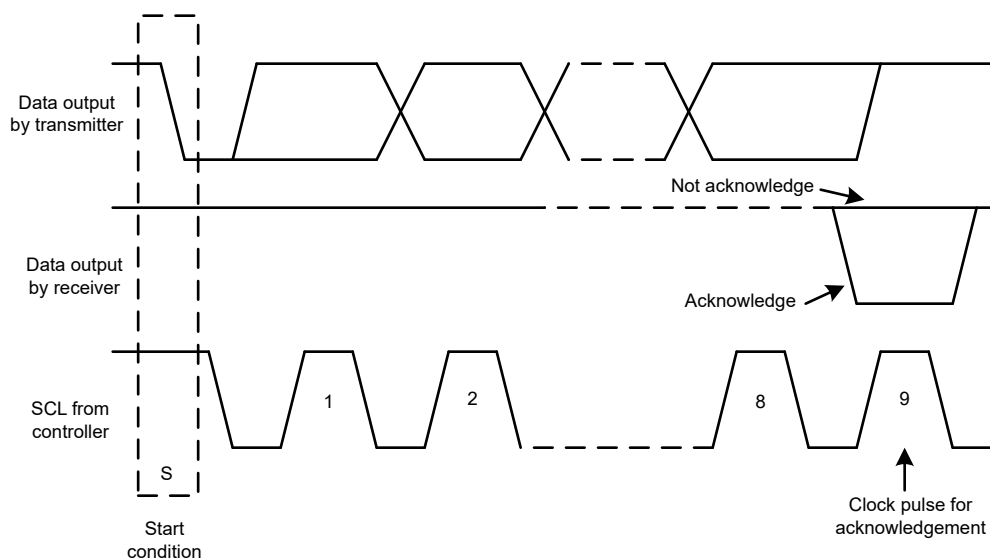
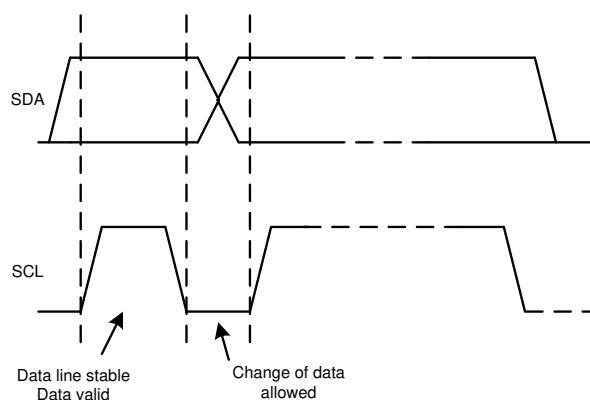

Figure 7-9. Acknowledge and Not Acknowledge on the I²C Bus
Figure 7-11. Bit Transfer on the I²C Bus
Other than specific timing signals, the I²C interface works with serial bytes. At the end of each byte, a ninth clock cycle generates and detects an acknowledge signal. An acknowledge is when the SDA line is pulled low during the high period of the ninth clock cycle. A not-acknowledge is when the SDA line is left high during the high period of the ninth clock cycle, as shown in Figure 7-9.
2. The controller then generates the SCL pulses, and transmits the 7-bit address and the read/write direction bit (R/\bar{W}) on the SDA line. During all transmissions, the controller makes sure that data are valid. A valid data condition requires the SDA line to be stable during the entire high period of the clock pulse, as shown in Figure 7-11. All devices recognize the address sent by the controller and compare the address to the respective internal fixed address. Only the target device with a matching address generates an acknowledge by pulling the SDA line low during the entire high period of the 9th SCL cycle, as shown in Figure 7-9. When the controller detects this acknowledge, the communication link with a target has been established.